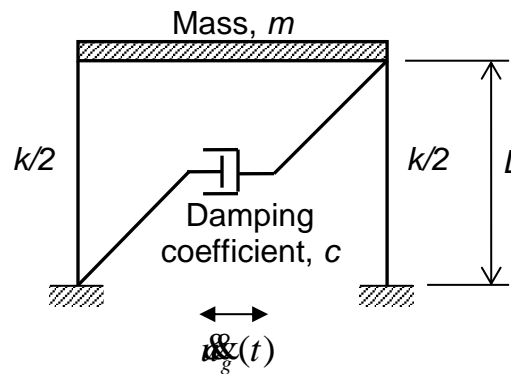

Figure 1/Rajah 1
1. (a). Formulate the equation of motion for a portal frame subjected to earthquake ground motion as shown in **Figure 1**.
- (b). The portal frame as shown in **Figure 1** is set into free vibration with the initial displacement of 30 mm and initial velocity of 10 cm/s. Each column of the portal frame has a cross-sectional area of 250 mm \times 250 mm and the length of the column is 3.6 m. Given that a force of $24EI/L^3$ at the roof causes a unit displacement at the roof and E is 200 GPa. Determine: